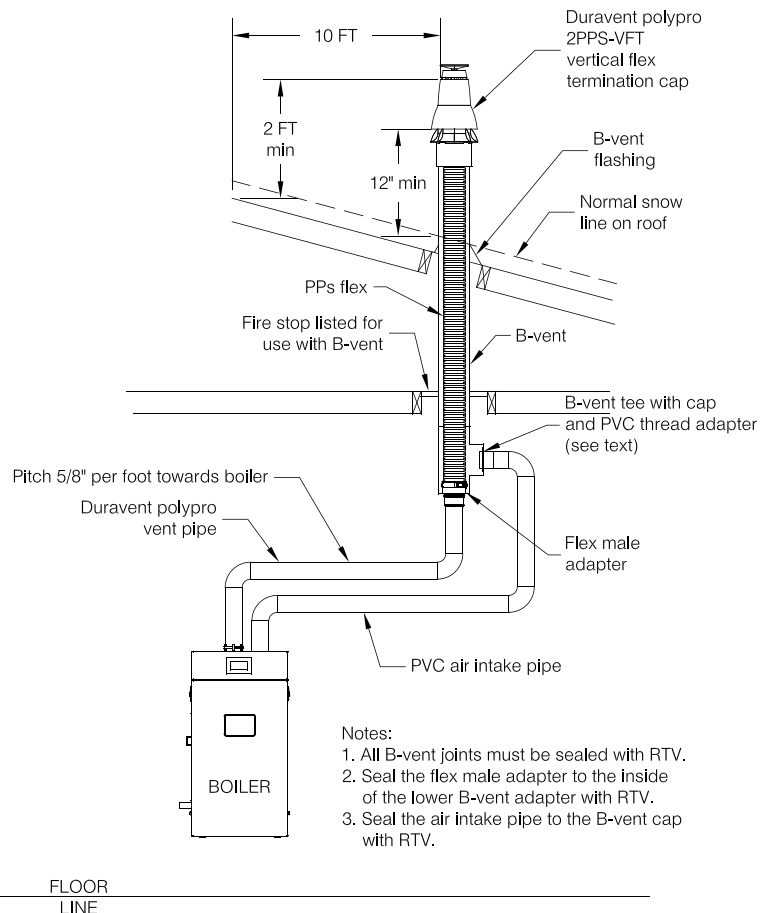

Figure 4-38: Flexible M&G/DuraVent PP Vent in UNUSED B-vent with Integrated Combustion Air Intake
- b. Refer to Figures 4-38 and 4-39 for details of B-Vent chase M&G/DuraVent or Centrotherm flexible vent with integrated air intake installation.